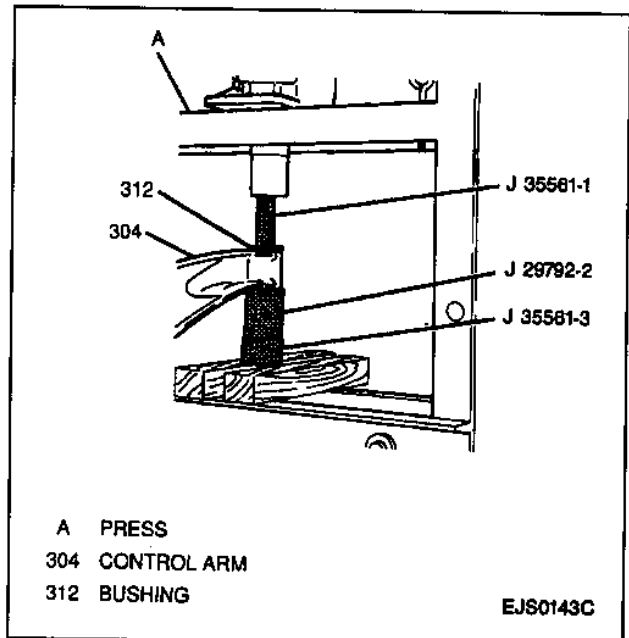

Figure 14—Removing Control Arm Bushing—Short Branch
Figures 14 through 17
2. Using a J 35561-1, a J 29792-2 and a press, remove the bushing from the short branch of the control arm (Figure 14).